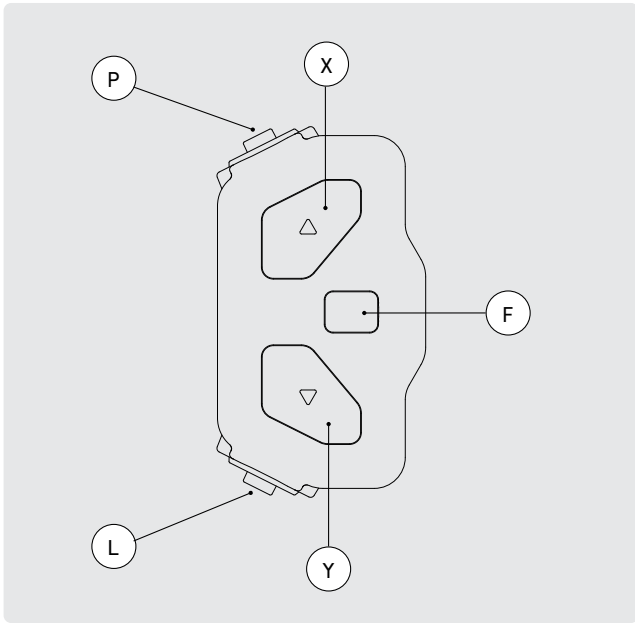

FIG. 19
There is a control element for the operation of the drive system on the handlebar of the motor st pro. There is a switch with five buttons on the left-side of the handlebar as shown on Fig. 19.
Increase assistance → Press on the X button (Fig. 19).
Reduce assistance → Press on the Y button (Fig. 19).
- 3 Insert the battery plug of the power supply in the charging socket of the batter (Fig. 19). With charging of the battery the LED lights on the battery start to flash.